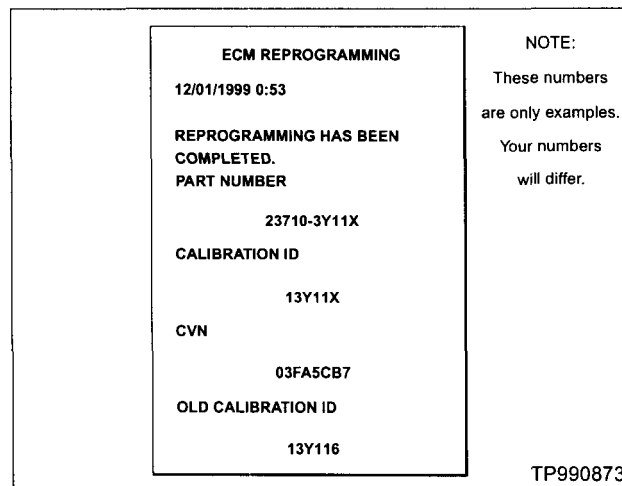

Figure 24
33. Once ECM Reprogramming is done, CONSULT II will print out a report (see Figure 24). Attach this to the repair order for future reference.